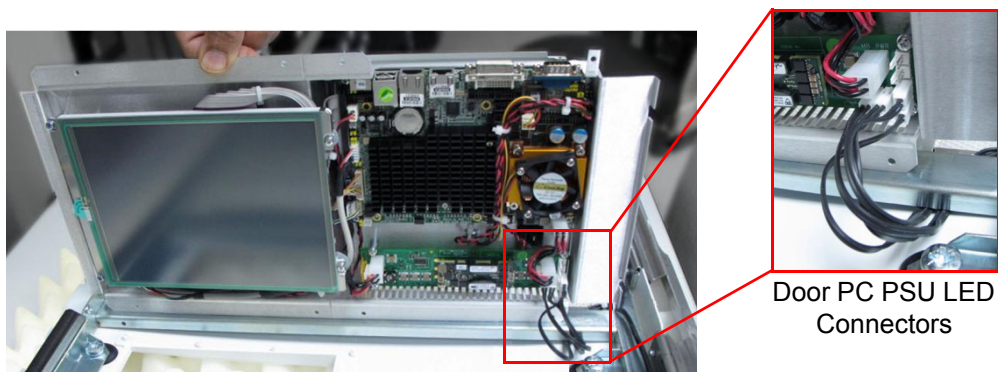

Figure 64 Door LED Connections
- Pull the right side of the Door PC away from the router door and then slide the Door PC to the right slightly to expose the final wires still connected to the Door PC power supply (see Figure 63 and Figure 64).
- The LEDs in the router door are powered from the Door PC power supply board (see Figure 64). Remove the plugs from the Door PC PSU.
7. Pick up the new Door PC and reconnect the door LED plugs to the Door PC PSU connectors (see Figure 64).